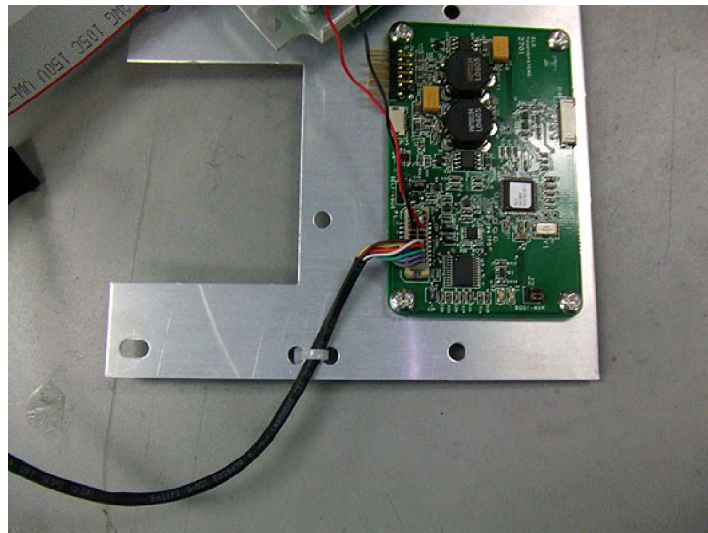

Figure 11: Connecting the RS232 cable to the Touch Panel Controller board
- c. Install the non-keyed end of the new Power and I/O cable assembly (Tektronix part number 174-5413-xx) to the P1 connector on the Touch Panel Controller board. The cable connects to the top row of pins on the connector, with the yellow wire to the outside. See Figure 11.
- d. Fasten the cable to the bracket using cable ties as shown in Figure 11. Cut off the end of the cable tie.